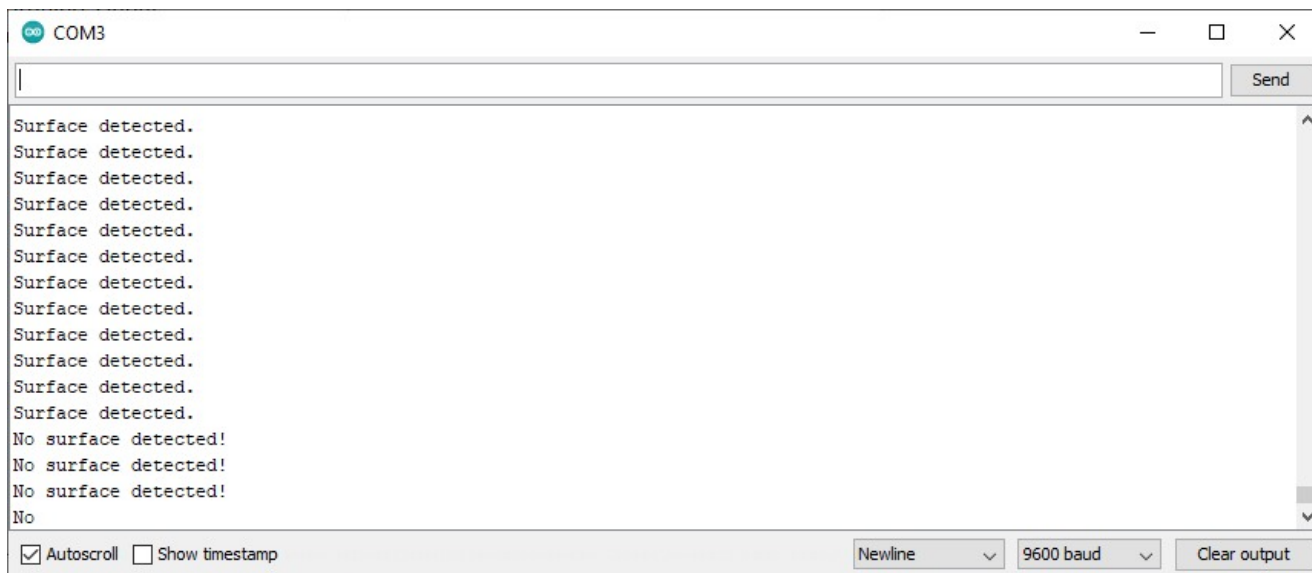

Figure 9. The Arduino serial monitor displaying messages to indicate whether or not the switch is pressed.
10. Upload the code to your Arduino, and leave the Arduino plugged into the USB cable. Select Tools→Serial Monitor from the top menu in your Arduino window. Make sure you select "9600 baud" from the drop-down menu in the lower right. This will give you a window that prints a message indicating whether or not the IR sensor detects a nearby surface (Figure 9). Try holding the IR sensor a few millimeters from the surface of your table or desk, then moving the IR sensor off the edge of the table so it points towards the floor. You should see the message change.